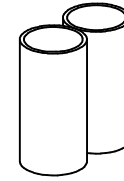

Fig. 1
5. Connect the Two Door Frames with 27" Pipe (F) Assemble into Slip-T's on Arch and Base on Front of GreenHouse.
6. Slide Door Side Pipe (G) Through Hinges on Door Frame and Then Assemble Door as Shown in Fig. 1. with Middle Support Pipe (F) Located in the Center of the Door. Adjust Latch as Needed.